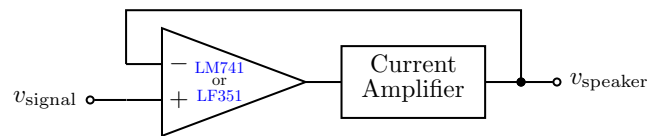

Figure 4.17: Current driver with voltage feedback.
4. Build the *current driver* in Figure 4.17 BELOW. Use *RECEIVER'S* REGULATED 10 V supply rail.